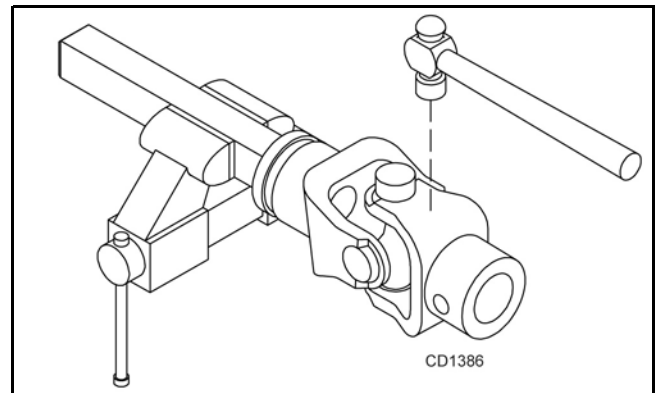

Figure 22.
2. With snap rings removed, support drive in vise, hold yoke in hand and tap on yoke to drive cup out of yoke. See Figure 22.